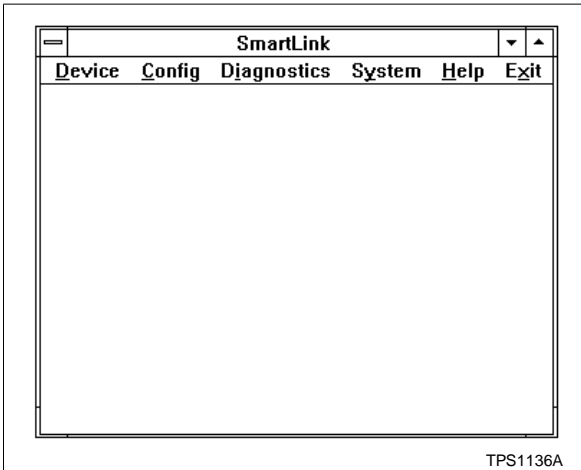

Figure 3-1. SmartLink Window
Figure 3-1 shows the SmartLink main Window. Figure 3-2 details the menu structure of SmartLink software. The bold text items are main menu selections and the items below them are the available options for that menu item.
5. Click on *OK* and the window shown in Figure 3-1 appears.